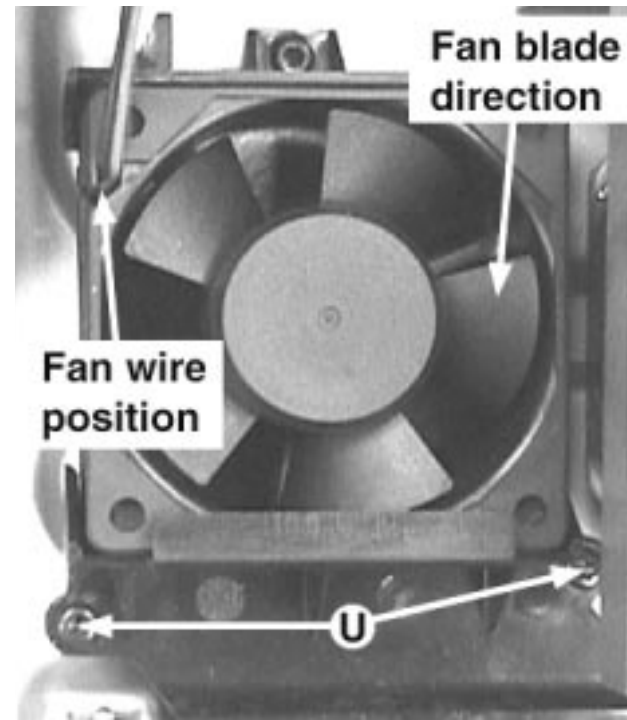

Figure 17
- 2) Loosen 2 screws U as shown in Figure 17 to remove the Housing Fan Top (pos 267).